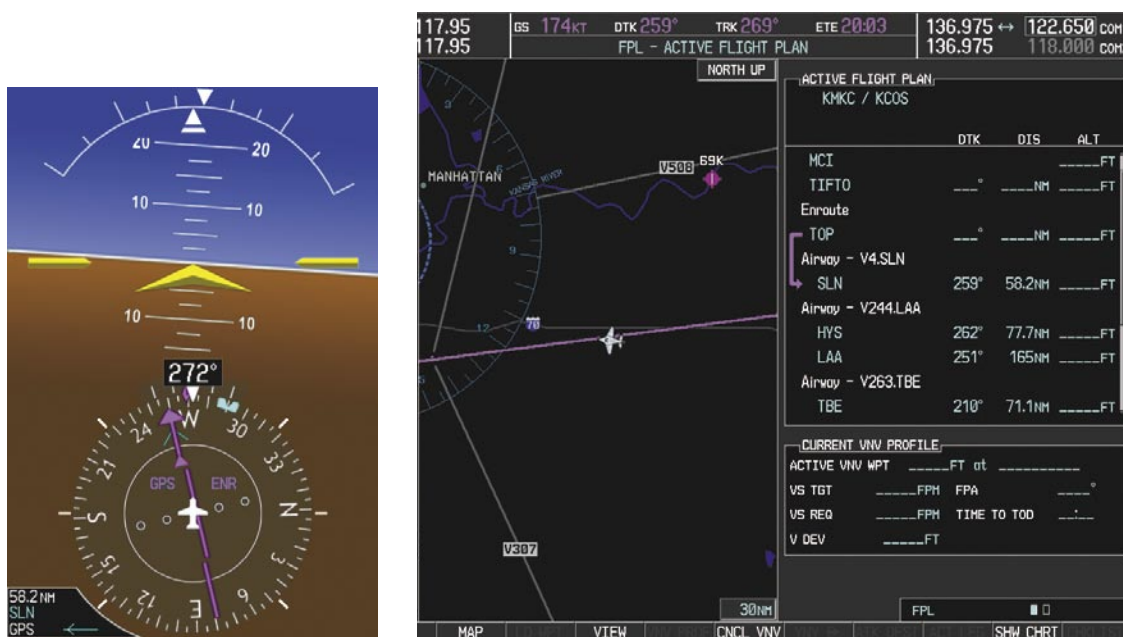

Figure 5-111 Turn on to Active Leg
- 7) As the CDI approaches center, the aircraft turns onto the active leg as seen in Figure 5-111.